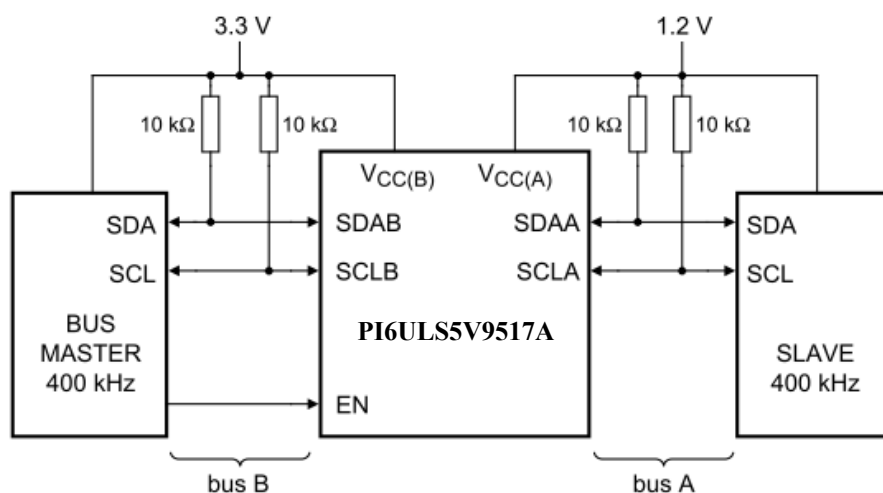
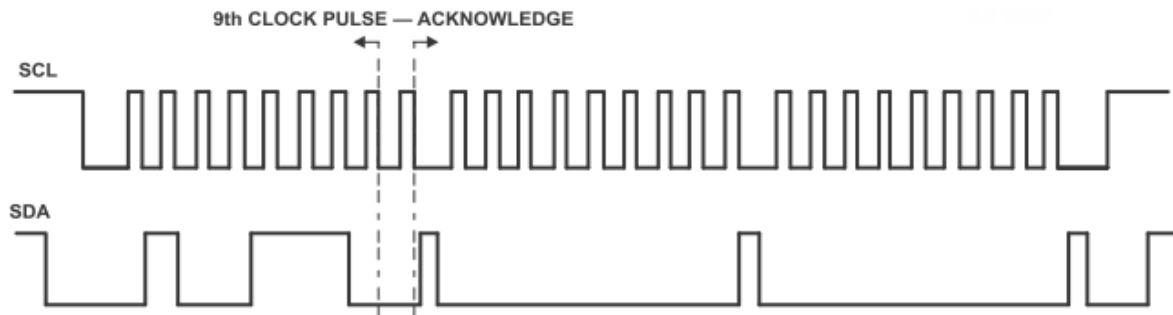
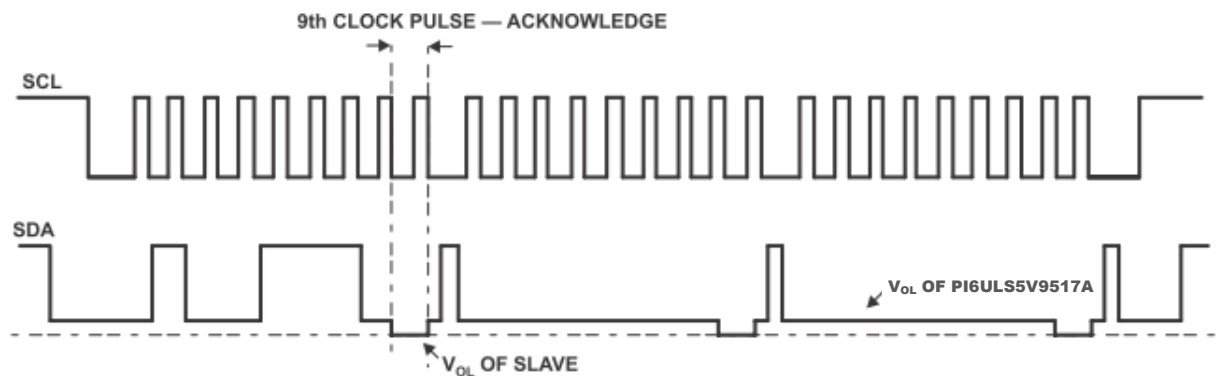

Figure 6: Typical Application
Figure 9: Bus A (0.8V to 5.5V Bus) Waveform
Figure 10: Bus B (2.2V to 5.5V Bus) Waveform
A typical application is shown in Figure 6. In this example, the system master is running on a 3.3 V I2C-bus while the slave is connected to a 1.2 V bus. Both buses run at 400 kHz. Master devices can be placed on either bus.
When port A of the PI6ULS5V9517A is pulled LOW by a driver on the I2C-bus, a comparator detects the falling edge when it goes below 0.3 VCC(A) and causes the internal driver on port B to turn on, causing port B to pull down to about 0.5 V. When port B of the PI6ULS5V9517A falls, first a CMOS hysteresis type input detects the falling edge and causes the internal driver on port A to turn on and pull the port A pin down to ground. In order to illustrate what would be seen in a typical application, refer to Figure 9 and Figure 10. If the bus master in Figure 6 were to write to the slave through the PI6ULS5V9517A, waveforms shown in Figure 9 would be observed on the A bus. This looks like a normal I2C-bus transmission except that the HIGH level may be as low as 0.8V, and the turn on and turn off of the acknowledge signals are slightly delayed.